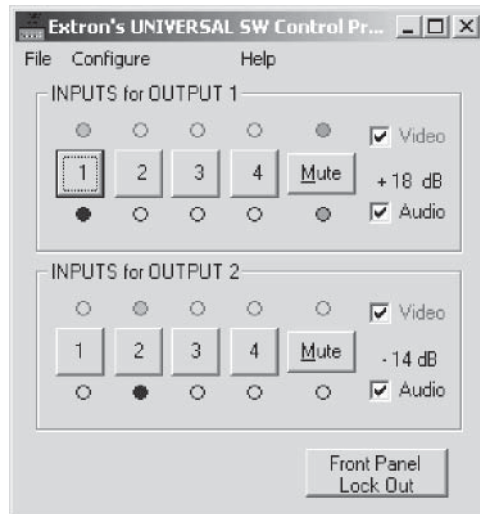

Figure 5-1 — Universal Switcher Control Program Main Menu window
3. The Extron Universal Switcher Control Program window (figure 5-1) displays the selected inputs for each output and the audio gain for the selected audio inputs.